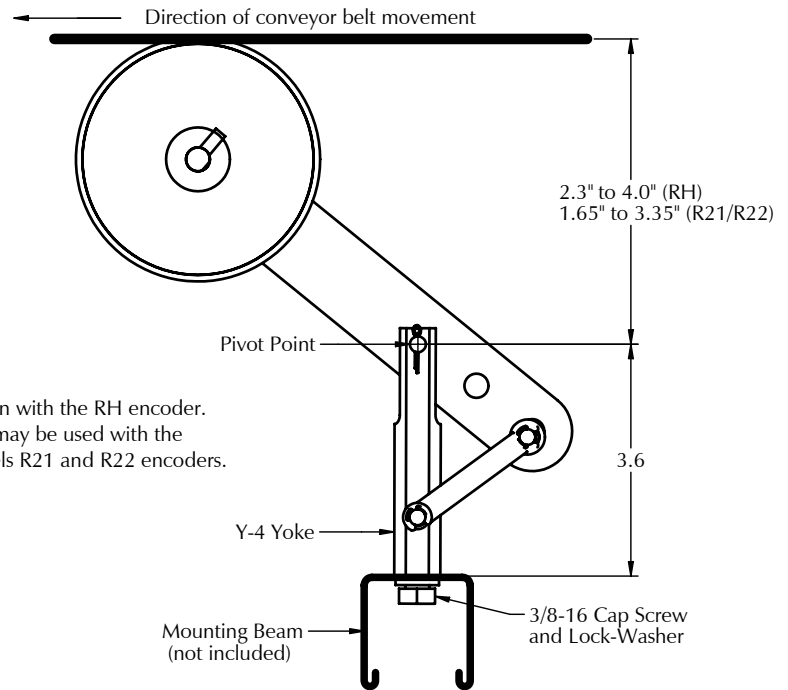

Figure 1: MB-UB4 Assembly (shown with RH wheeled encoder)
2. Bolt the Y-4 yoke to the mounting beam (not supplied) using the 3/8-16 hex cap screw and lock washer supplied. The Y-4 should be perpendicular to the conveyor belt with the pivot point below the belt as shown in figure 1, and positioned so it is aligned with the belt. The greatest pressure is applied when the pivot point is closest to the belt. **Caution:** If the encoder is not well aligned with the belt, premature wheel wear will result.